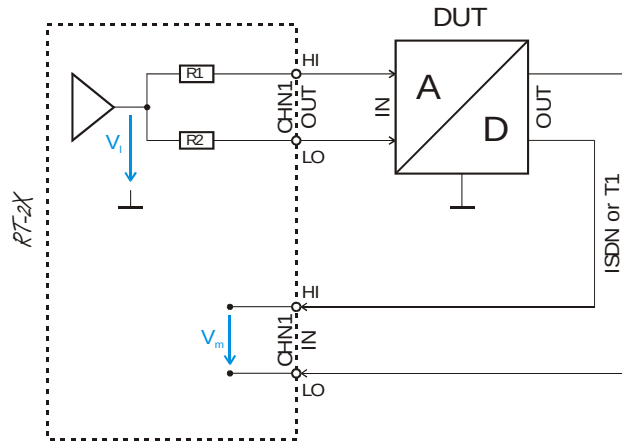

Fig 41 LCTL Measurement of an A-D Device
1. Connect **RT-2X** as shown in **Fig 41**.